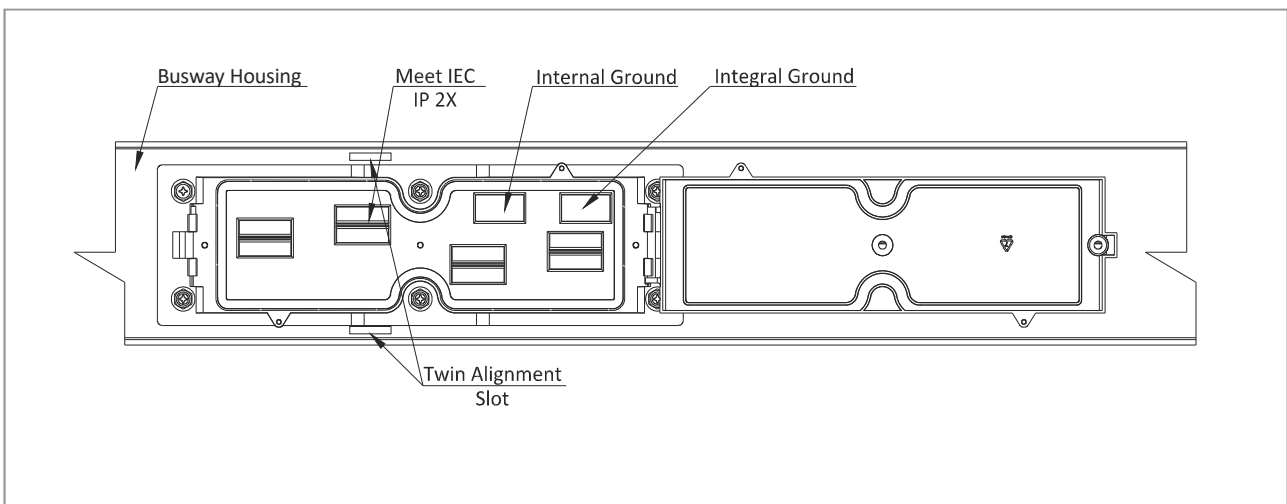

Figure 18.2
5. The alignment pin will be inserted into the alignment slot for the installing process. (See Figure 18.2)